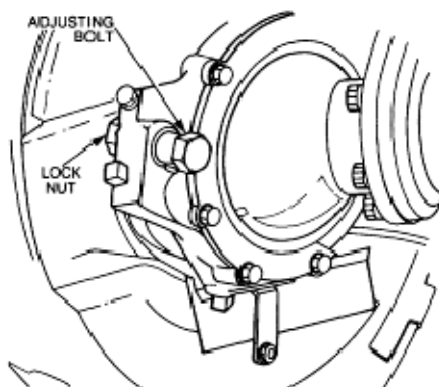

Figure 142 Steering Lock Stop Adjustment
- b. Turn the bolt clockwise or anticlockwise, to obtain the correct clearance (Figure 142).